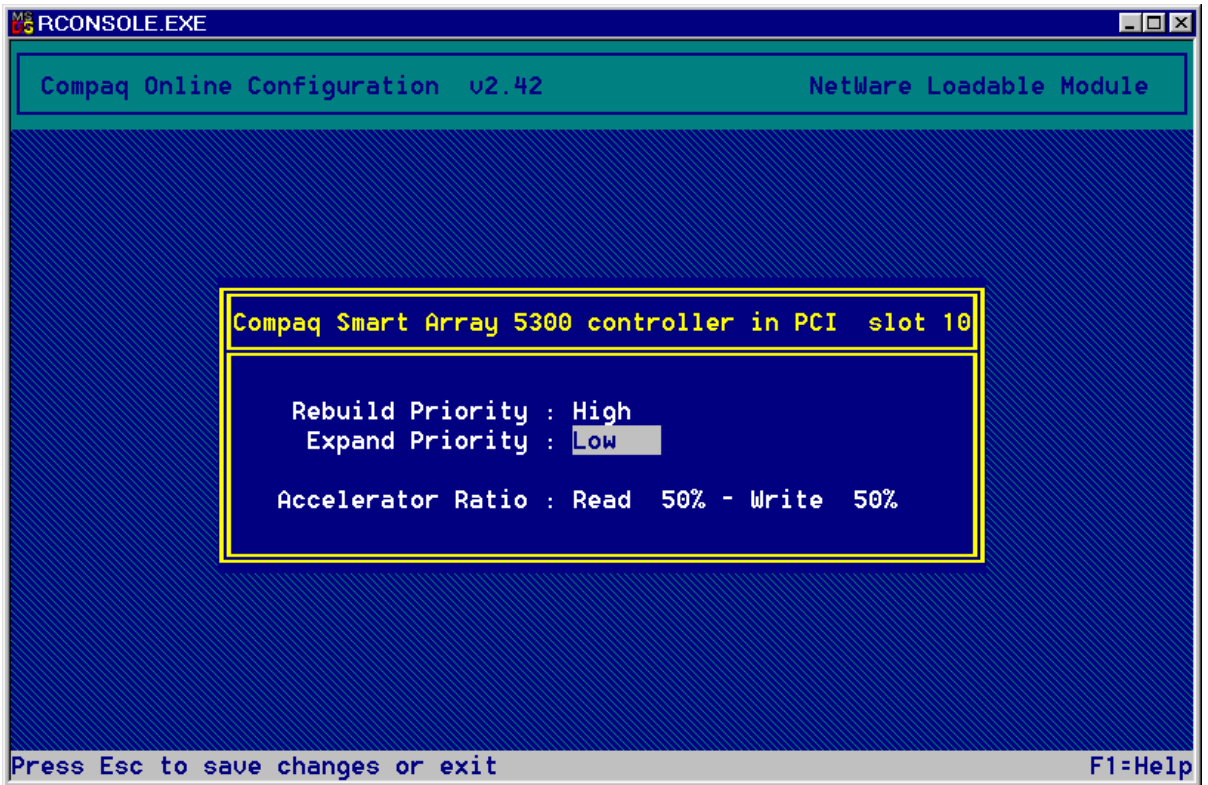

Figure 7-23. Controller Settings screen
2. Select the Controller Settings option on the right-hand side of the screen. The Controller Settings screen will be displayed (Figure 7-23).